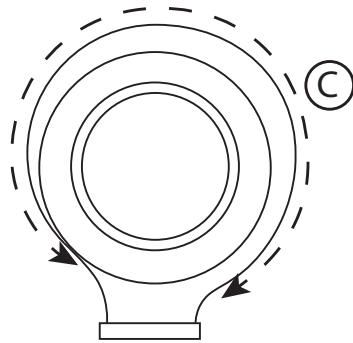

FIG. 1
- Step 1:** Measure around the outside of the turbo as shown in figure 1. The material should be cut to the length shown in figure 5C.